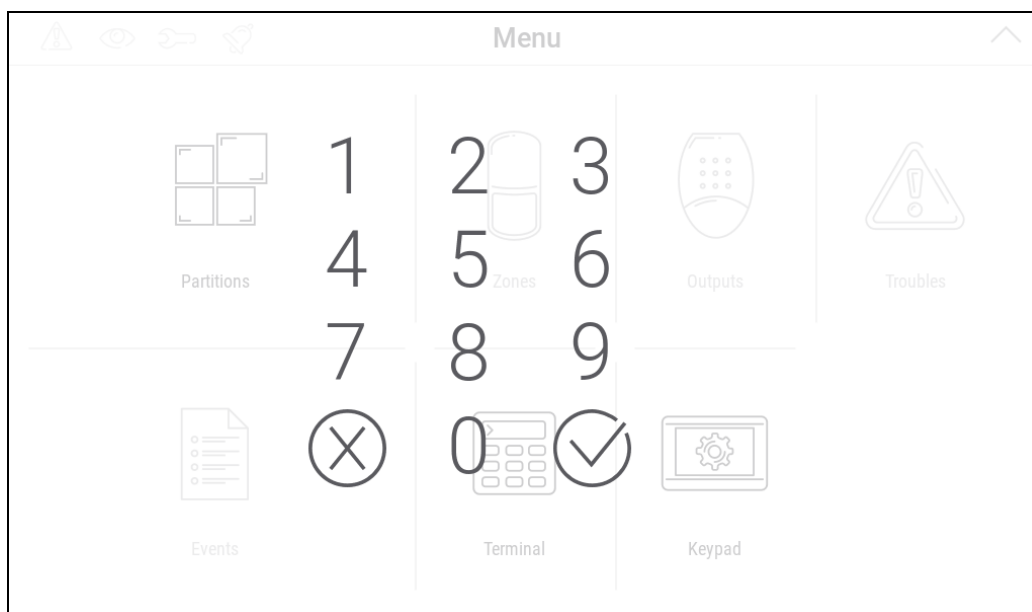

Fig. 8. On-screen keypad.
2. Swipe the screen up. The on-screen keypad will be displayed (Fig. 8).